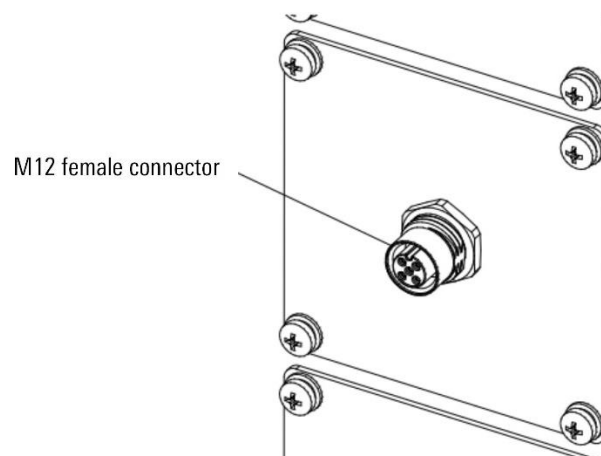

Figure 17-8 M12 female connector
- Step2. Install the M12 female connector (reference Figure 17-8) on the M12 connector mounting plate.